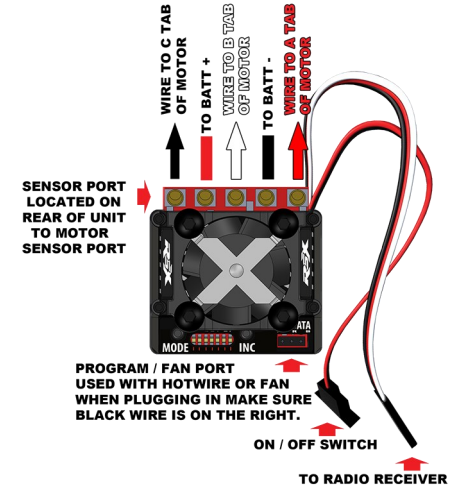
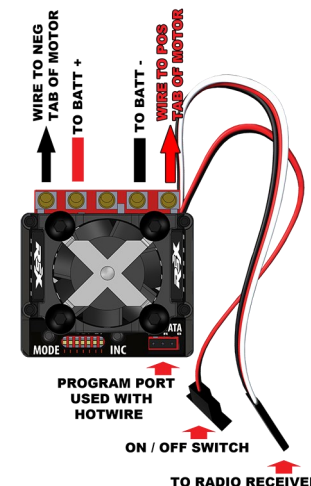

FIGURE 4.
FIGURE 5.
- 1) With the ESC installed and properly wired, (Figs. 4, 5 & 6) connect the battery.
Brushless wiring instructions refer to Fig. 4 Brushed, refer to Figs. 5 & 6.
First, determine the type of motor you are using. **SENSORED** motors require the sensor harness, **SENSORLESS** motors do not. Refer to Figures 4, 5 and 6 for wiring brushless and brushed motors.